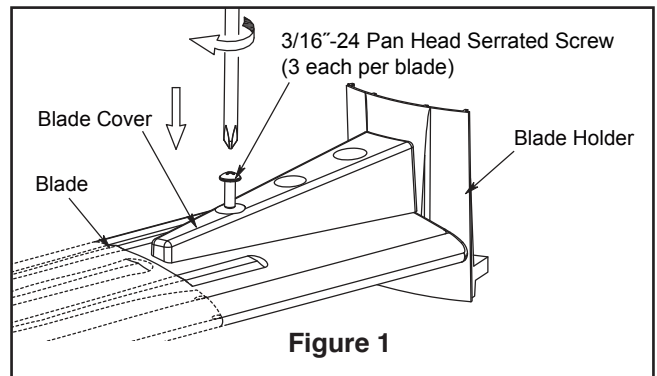

Figure 1
1. Assemble canopy by rotating key slot in canopy over shoulder screw in hanger bracket, taking care not to pinch the wires. Tighten shoulder screw. Fully assemble and tighten second shoulder screw that was previously removed. (Figure 1)
1. Lay flat side of blade holder on a flat surface with the inside of the blade holder arm facing up. This is the side with the threaded posts and pitched foot. Position the blade over the blade holder with the threaded posts showing. Make sure the bottom edge of the blade is fully seated against the blade holder. Place blade cover on top of the blade, positioning the holes over the threaded posts. With a phillips screwdriver, thread three screws into the posts but do not fully tighten. Prior to final tightening, position the centerline of the blade holder with the center of the end of the blade. Tighten three screws to secure the blade. (Figure 1)
- 1. Remove the six screws in the support bracket at the bottom of the motor assembly. Assemble the light plate assembly to the support bracket using the previously removed screws. (Figure 1)